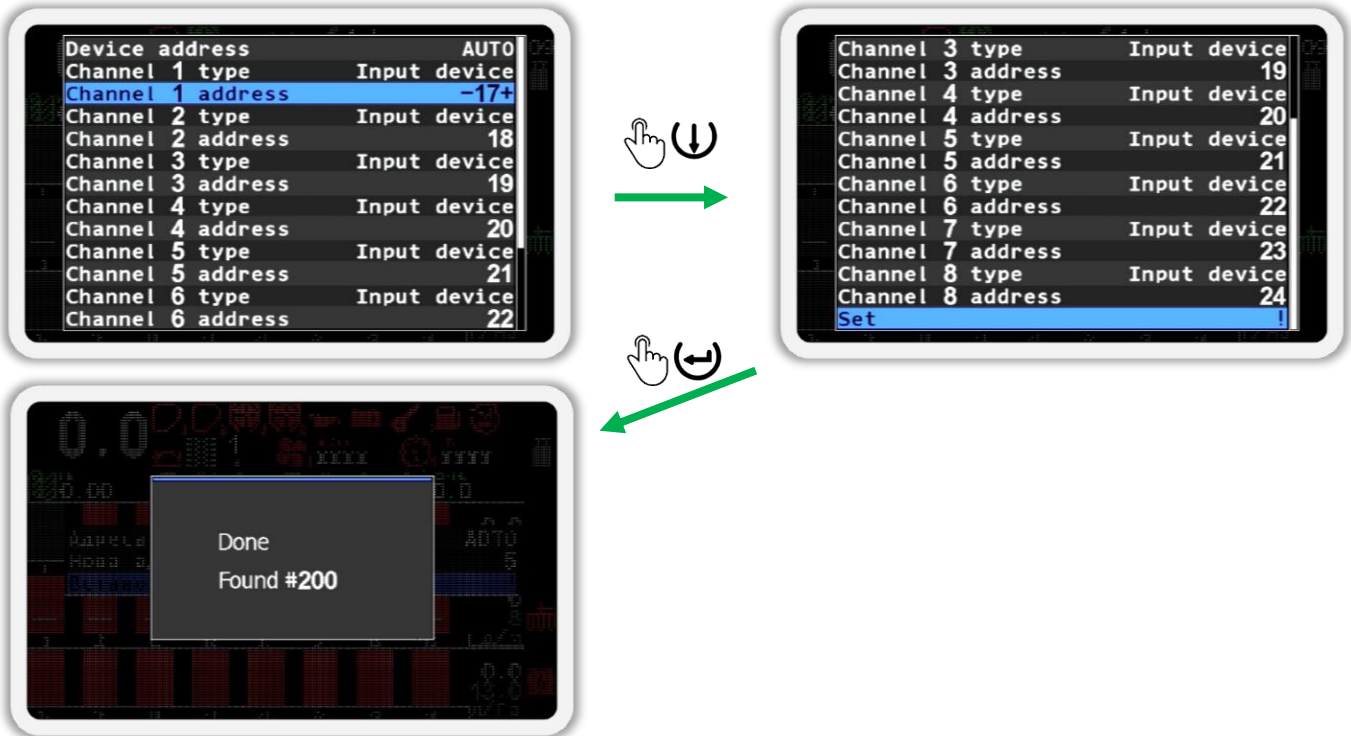

Figure 115
3. Select the  “Channel 1 type” item and set the emulated sensor type to “Input device” or “Seed sensor” (see Figure 115 on the left).
4. Select the  “Channel 1 address” item and enter the emulated sensor address (see Figure 115 on the left). **Addresses for sensors that usually connected to the input device start from 200. Exceptions to this rule are seed sensors, dry fertilizer sensors and liquid fertilizer sensors whose addresses start from 1. Marker sensors have the following addresses: 216 - left and 217 - right.**
- Select the  “Set” item and press the  “Menu” button. As a result of a successful process of sending the settings to the device, the message “Done” will be displayed on the screen (see Figure 115).